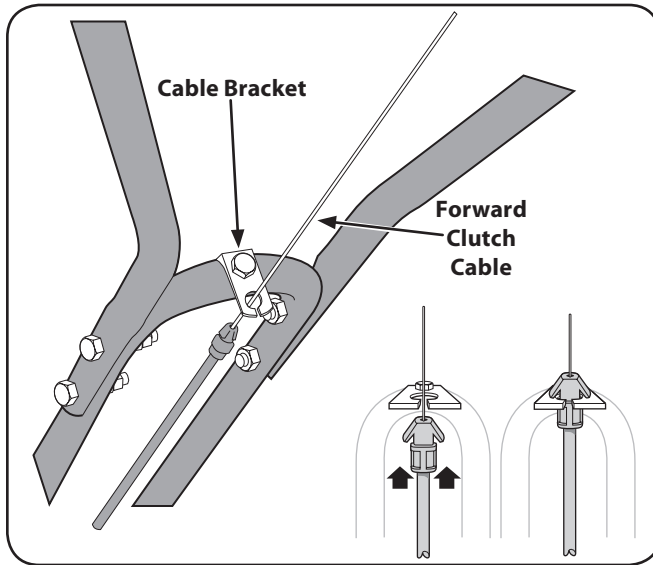

Figure 3-4
1. Carefully unwrap the forward clutch cable from its shipping position and slide the thin cable wire into the slot in the cable bracket. Push the cable connector up through the hole in the bracket until the groove in the connector snaps into place. See Fig. 3-4.